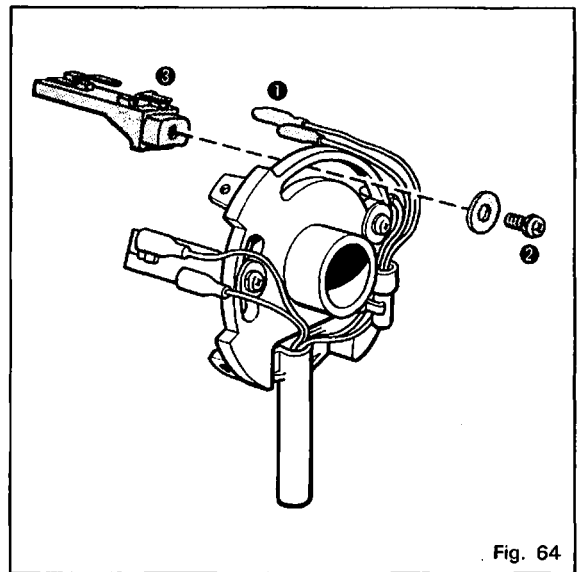

Fig. 64
- a. Remove cover and pull out the terminal ❶.
- b. Remove screw ❷ and replace lead switch ❸.
- c. To put the terminal ❶ must be done with red wire to be sewing machine pulley. (Fig. 64)